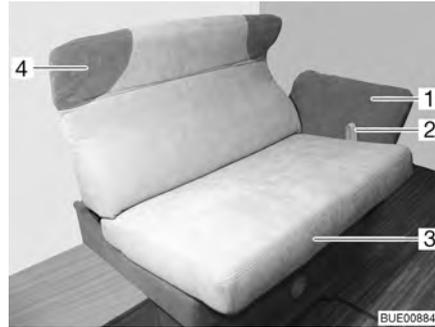

Fig. 91 Adjusting the divan
- Pull up the loop (Fig. 91,2) and carefully pull the seat (Fig. 91,3) along the rails as far as it will go towards the middle.
- Hold the neck cushion (Fig. 91,4) in both hands and carefully move it up or down to the right position.
- Hold the armrest (Fig. 91,1) in both hands and carefully move it up or down to the right position.